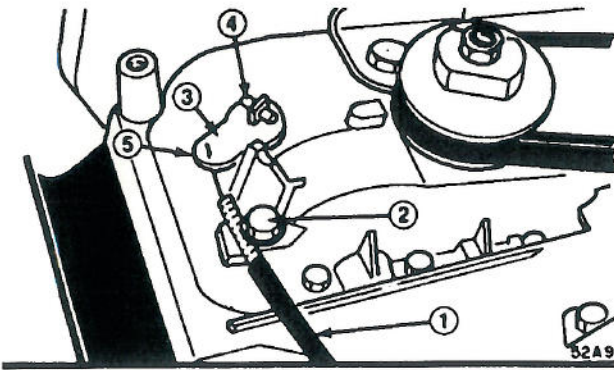

Figure 19
6. Insert new cable end into hole in control lever from bottom of lever, install lever into the transmission and secure with roll pin (Fig. 19).
3. Loosen the capscrew securing the ground speed control cable (Fig. 19, item 1).
4. Push transmission control lever to right in direction of cable clamping capscrews as far as possible, hold in position and tighten capscrew (Fig. 19).